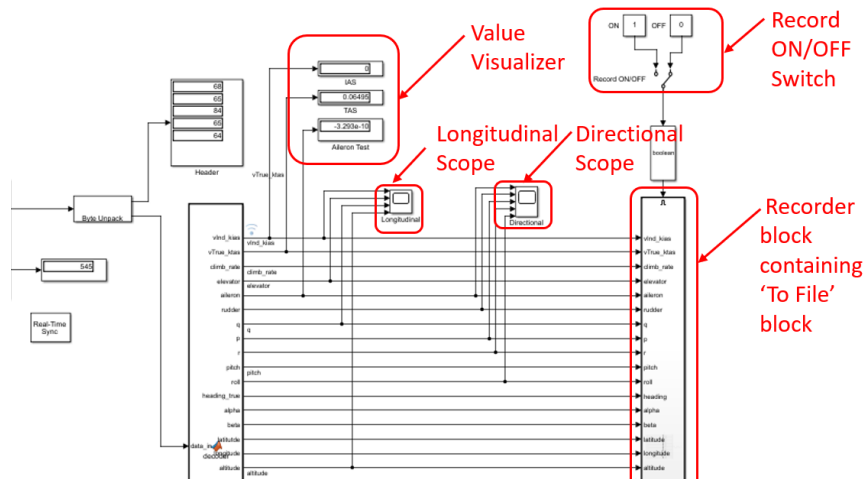
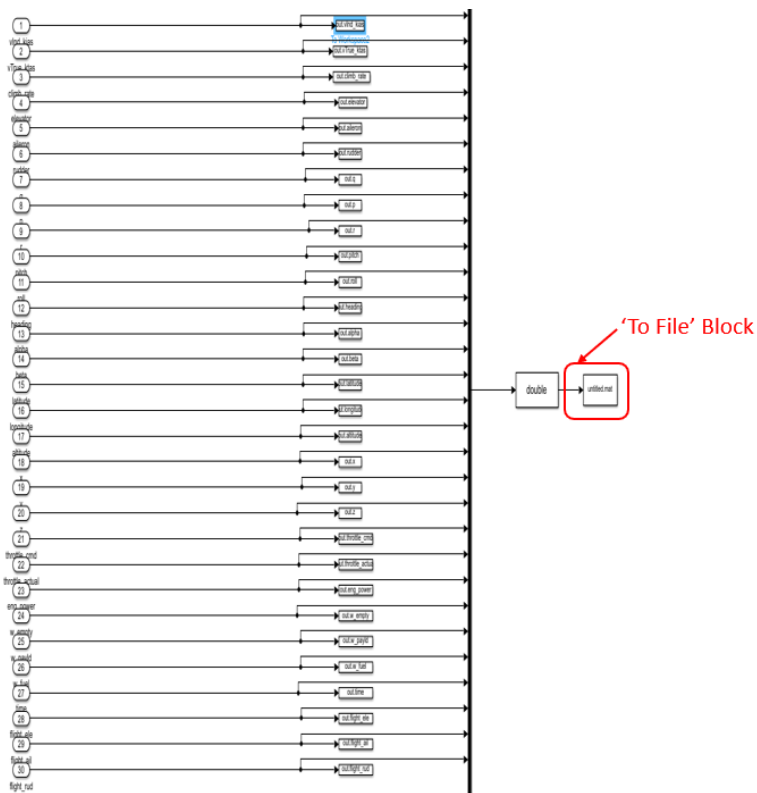
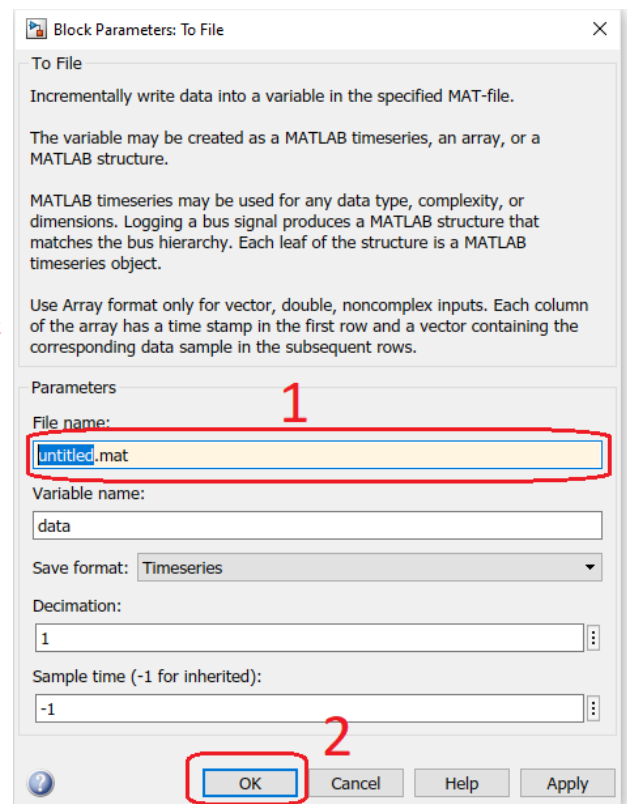

Figure 1: Sensor block labelled with values visualizer, scopes, record switch and 'To File' block.
Figure 5: ‘Recorder’ subsystem
Figure 6: “To File” block window
For the exercise of week 1, only the sensors block is required (figure 1). For week 2, models with the general structure of sensor – controller – actuator blocks will be used.
Step 5: Click on the ‘recorder block’ from the sensors subsystem (shown in figure 1). Type a filename inside the “To file” (shown in figure 5) by clicking on it and typing it in the File Name parameter block as seen in figure 6.